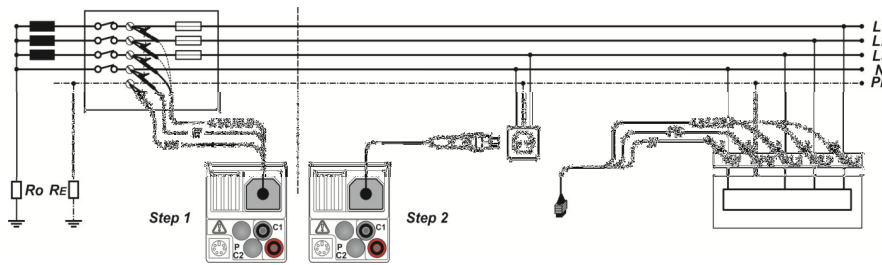

Figure 5.30: Connection of the optional "Commander" test plug (044149) and the three-wire test cable
- Connect the test cables to the test object (see figure 5.30).